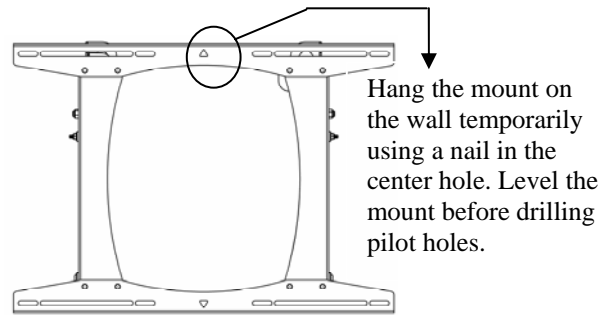

Figure 2. Use Triangular Hole to Hang the Mount
4. Using a nail as a temporary hook, hang the mount on the wall using the triangular hole located in the center of the mount (see Figure 2).